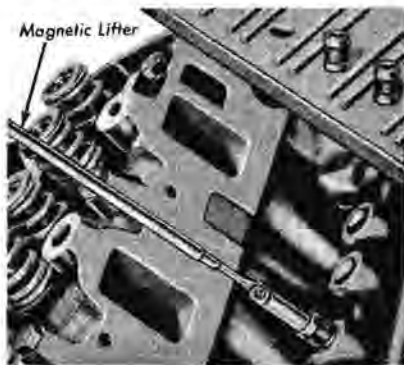

FIG. 63—Valve Lifter Removal—Intake Manifold Removed
11. Lift the valve lifters from the cylinder block and place them in a rack so that they can be installed in their original bore (Fig. 63). The internal parts of each hydraulic valve lifter assembly are matched sets. Do not intermix the parts. Keep the assemblies intact until they are to be cleaned.